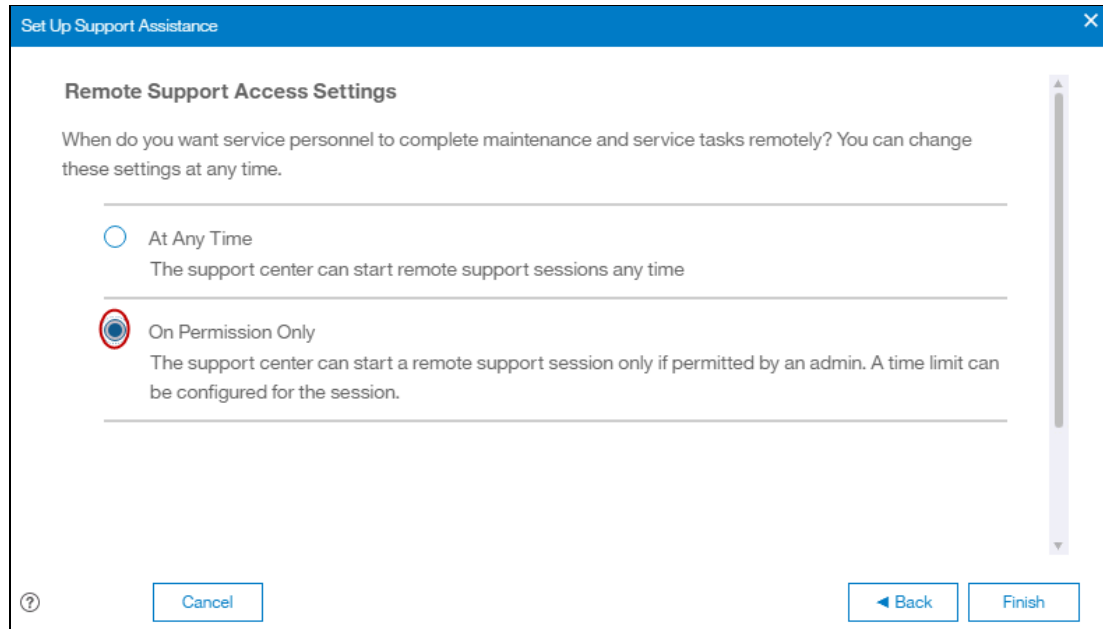

Figure 7-70 Remote Support wizard access choice
7. The next window asks if you want to open a tunnel to IBM permanently, allowing IBM to connect to your FS9100 **At Any Time**, or **On Permission Only**, as shown in Figure 7-70. **On Permission Only** requires a storage administrator to log on to the GUI and enable the tunnel when required. Click **Finish**.